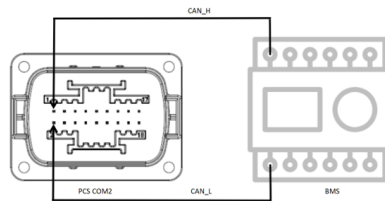

Figure 6-27 CAN Communication Wiring
Step 1: In the PCS, the 1st pin of COM2 port represents CAN_H, and the 2nd pin represents CAN_L, as shown in Figure 6-27.